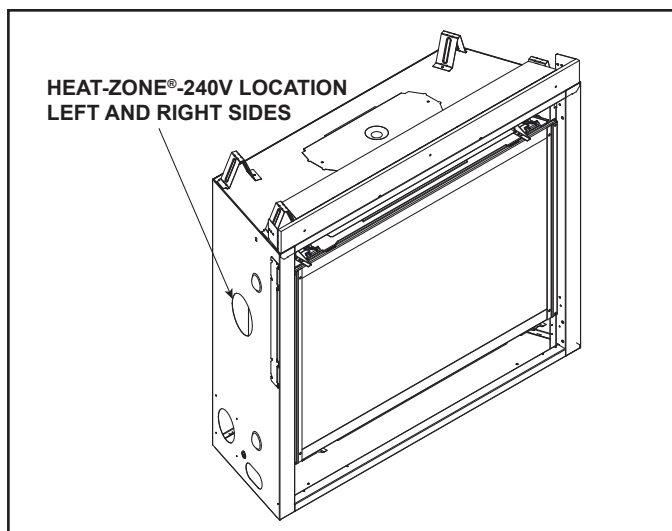

Figure 6.13 Heat-Zone®-240V Locations
- Locate the Heat-Zone®-240V ports on the left and right sides of the appliance. Either one or two Heat-Zones®-240V may be installed. See Figure 6.13. Remove the knockout(s) from the appliance with a tin snips.